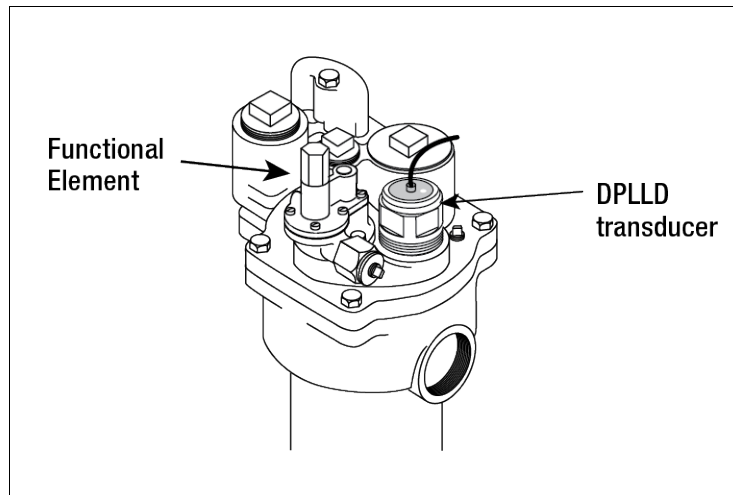

Figure 11. DPLLD Installation
3. Thread the DPLLD transducer into the LLD port (Figure 11).